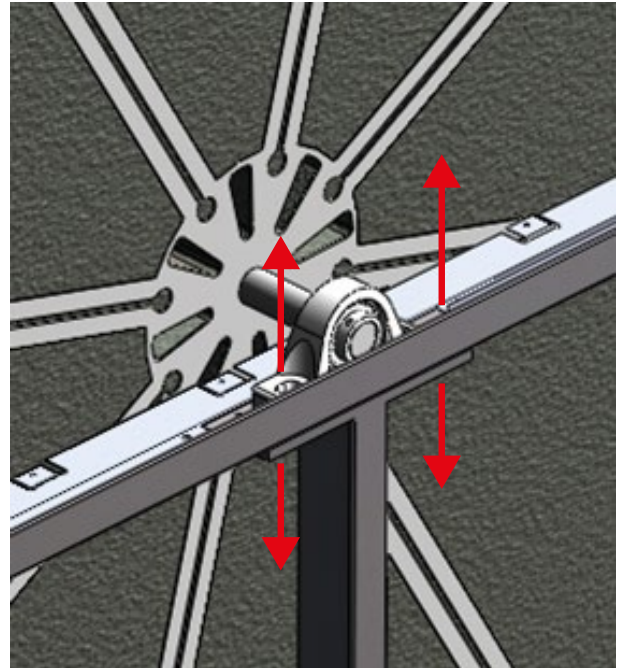

Figure 2. Model EQ beam clearance.
- The bearings of the Model EQ heat exchanger must always be easily accessible above and below the L-shaped beam to enable any future adjustments. (H:200 mm (7.87") W:200 mm (7.87")) (See Figure 2.)